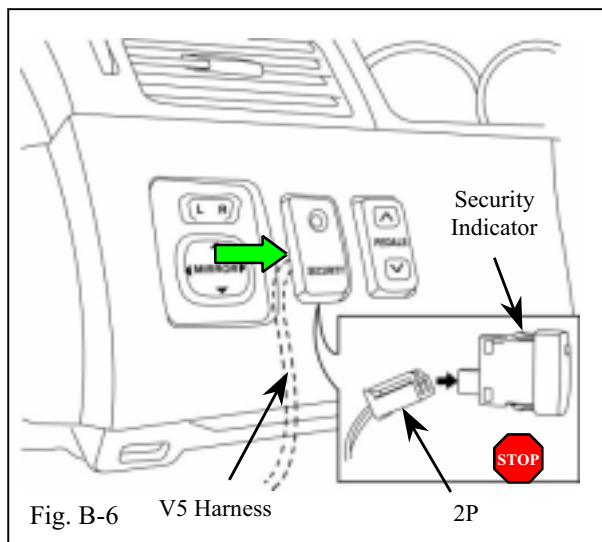

Fig. B-6
11. Locate and disconnect the 2P connector from the security indicator next to the outside mirror switch. (Fig. B 6)
12. Connect the V5 harness' 2P connectors to the vehicle harness' 2P connectors and security indicator. Secure the 2P connector and the V5 harness to the vehicle harness with one (1) medium wire tie. (Fig. B-6)
➔ 13. Remove the knockout cover right next to the outside mirror switch. (Fig. B-6)
14. Install and connect the status monitor, supplied in the kit, to the V5 harness' 2P connector. Secure the open V5 harness' 2P connector and the V5 harness to the vehicle harness with one (1) medium wire tie. (Fig. B-6)